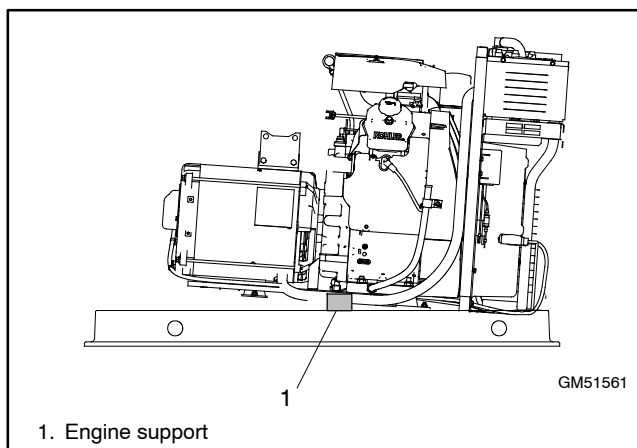

Figure 6-12 Wood Support
22. Raise the alternator end of the generator set enough to place a wood support beneath the rear of the engine. The wood support must be long enough to span the opening in the base. See Figure 6-12.